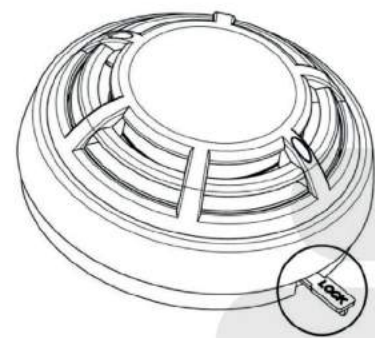

Fig.4
- > If the detector is locked to the base, to unlock it , insert first the key to the specified location (Fig. 4) and rotate the detector counterclockwise;